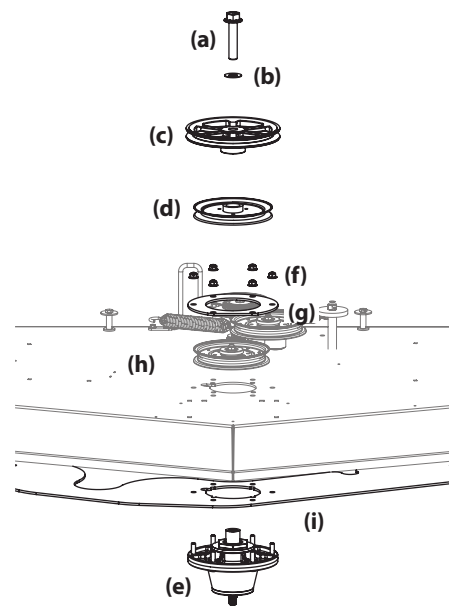

Figure 59
8. Remove the hex flange bolt (a) and flat washer (b) securing the drive pulley (c) and center spindle pulley (d) to the spindle assembly (e). See Figure 59.
9. Remove the 6 flange lock nuts (f) securing the center (d), spindle assembly (e) and the support plates (g) to the deck shell (h). See Figure 59.